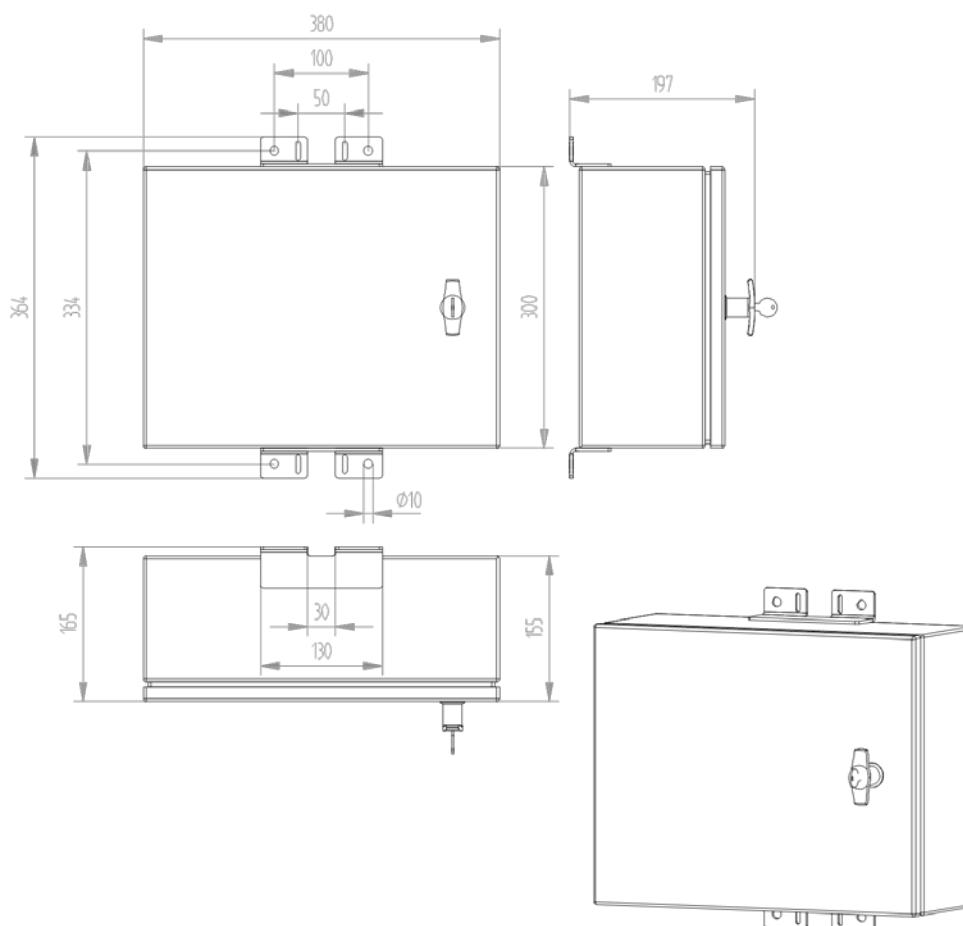

Figure 6: Dimension illustration of the case version B (9.1756.00.x0x) (in mm)
- diameter 10 mm, see **Figure 6: Dimension illustration of the case version B (9.1756.00.x0x) (in mm)**